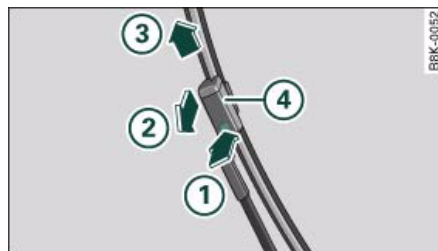

Fig. 67 Removing the wiper blades
- Press the release button (1) on the wiper blade ⇒ *fig. 67*. Hold the wiper blade firmly and press it forwards slightly (2).
- Slide the wiper blade upwards (3).